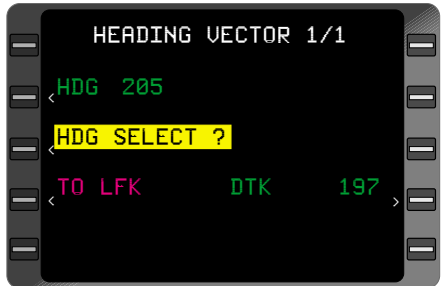

Figure 3-97
3. **ENTER** Key - DEPRESS. The cursor advances to Heading Mode field. (Figure 3-97)